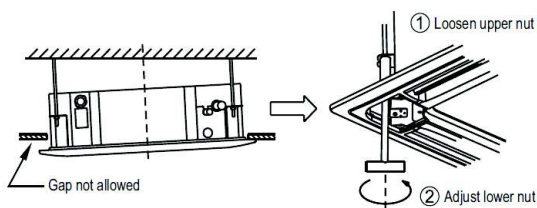

Fig. 4-25
- If the gap between the panel and ceiling still exists after fastening the screws, the height of the indoor unit should be modified again. (Refer to Fig.4-25-left)